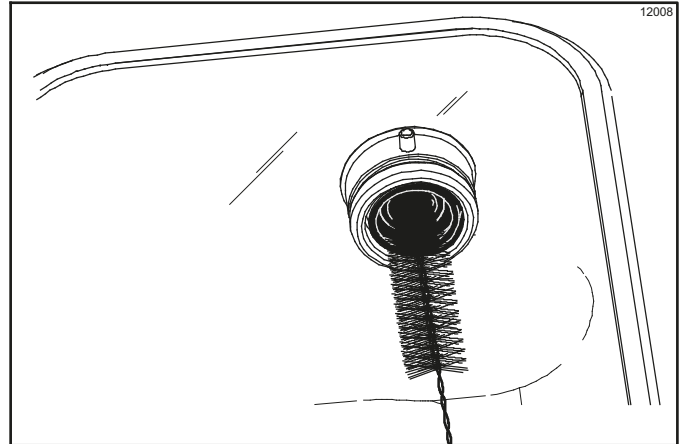

Figure 6-75
6. Using the black brush, clean the drive hub opening in the rear wall of the mix hopper. (See Figure 6-75.)